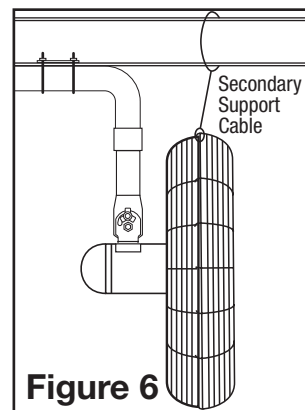

Figure 6
3. Wrap the other end of the Cable around a secure building joist, truss, or other support near the Fan. Take up all excess slack in the Cable (Figure 6).